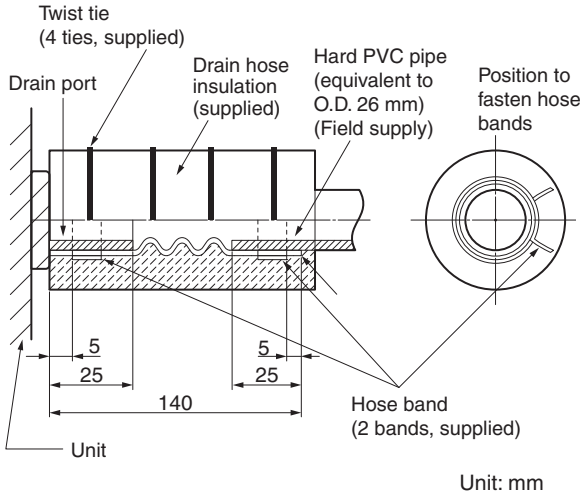

Fig. 3-6
- To install the drain hose, first place 1 of the 2 hose bands over the unit drain port and the other hose band over the hard PVC pipe (not supplied). Then connect both ends of the supplied drain hose. (Fig. 3-6)